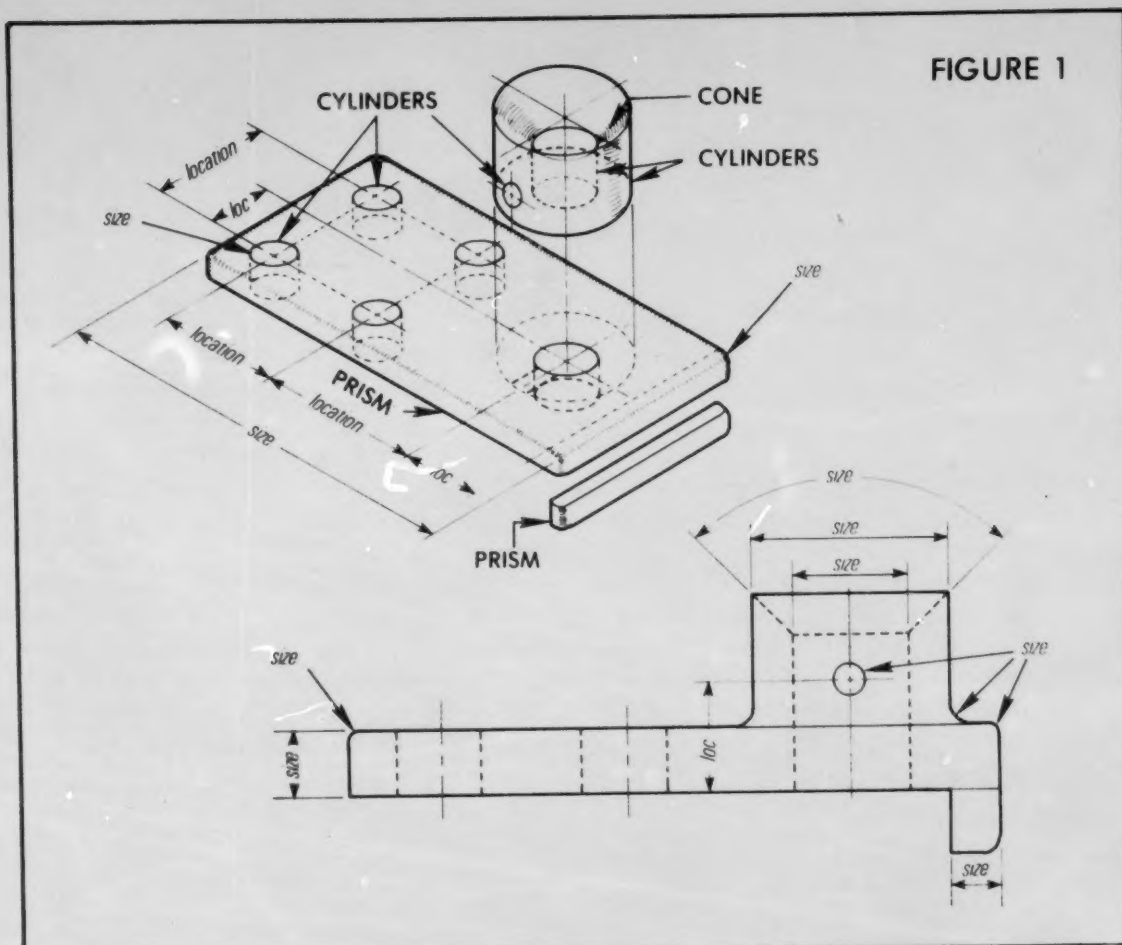

FIGURE 1
As previously stated, dimensions are used to give information as to size and location of geometric figures, such as, prisms, cylinders, cones, pyramids, and spheres, as seen in Figure 1.
In dimensioning an object, the dimensions must give the size of each geometric figure, "size dimensions," and the exact location of each surface, "location dimension." For example, to drill a hole in a part, the machinist must know three things: (1) the diameter of the hole (size dimension); (2) the exact location of the center (location dimension), and (3) depth of hole. These basic dimensions can be broken down into four types of dimensions given that are required in reading the drawing. These dimensions are: (1) overall dimensions of the part; (2) shape dimensions of each geometric figure; (3) location dimensions, locating each geometric figure with each other or a reference edge; and (4) notes or descriptors, that give information as to size and procedure. Example: $\frac{1}{2}$ drill $3/4$ " deep - 4 holes, as in Figure 1.